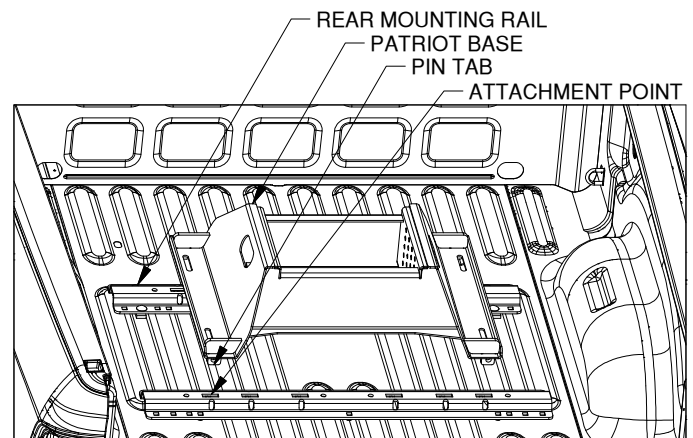

Figure C1: View into truck bed looking towards tailgate.
2. **Position the rear mounting rail.** For this step the base which will be used in the mounting rails is required. Place a mounting rail into the truck bed behind the forward mounting rail. Place the base over the rail attachment points and carefully lower it until the pin tabs pass through the attachment points on the forward mounting rail. Attach the rear mounting rail to the rear mounting points on the base. The base should rest flat against the top of the rails, See Figure C1. With the base still attached ensure that the rear rail is centered in the truck bed.